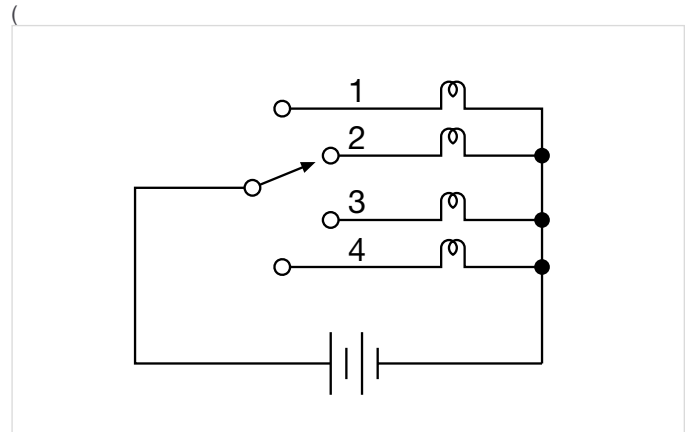

Figure 9. Scanner to indicate elevator location.
**Figure 9** illustrates an example of a scan configuration. In this diagram, the battery is connected to only one lamp at a time, such as in an elevator's floor indicator system. Another example is a scanner for monitoring temperatures at several locations using one thermometer and multiple sensors. Typical uses of scanner switching include burn-in testing of components, monitoring time and temperature drift in circuits, and acquiring data on system variables such as temperature, pressure, and flow.